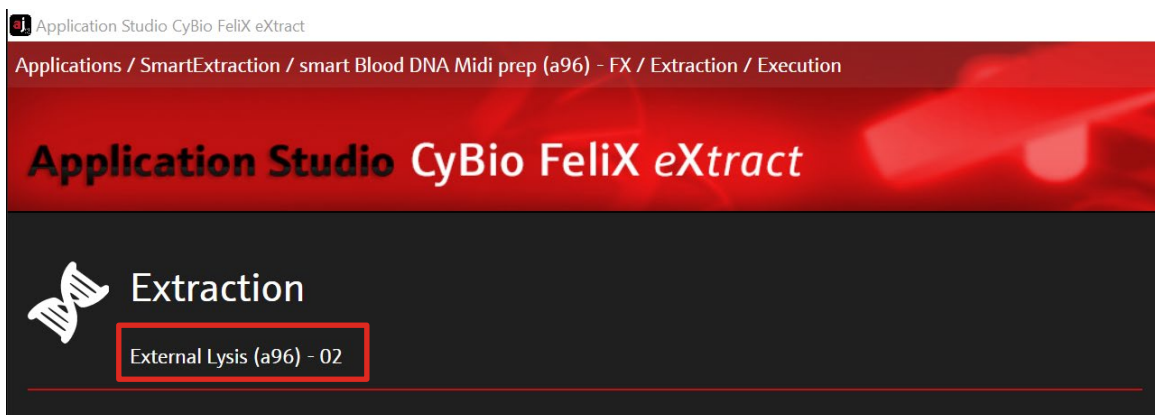
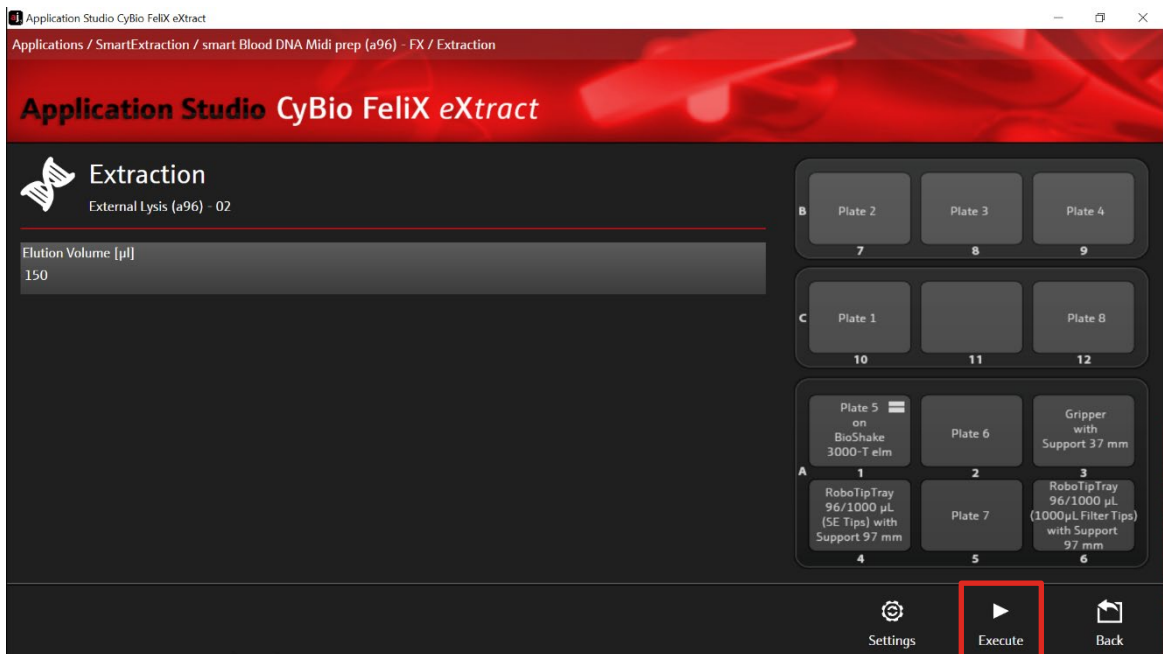

Figure 14: Version number of the extraction protocol.
Figure 15: Selection the elution volume (150 – 500 µL).
- Check the correct protocol version “External Lysis (a96) – 02” (→ see Figure 14) and adjust the elution volume between 150-500 µL. Recommended elution volumes are listed in the table below. Start the protocol by clicking the button “Execute” (→ see Figure 15).